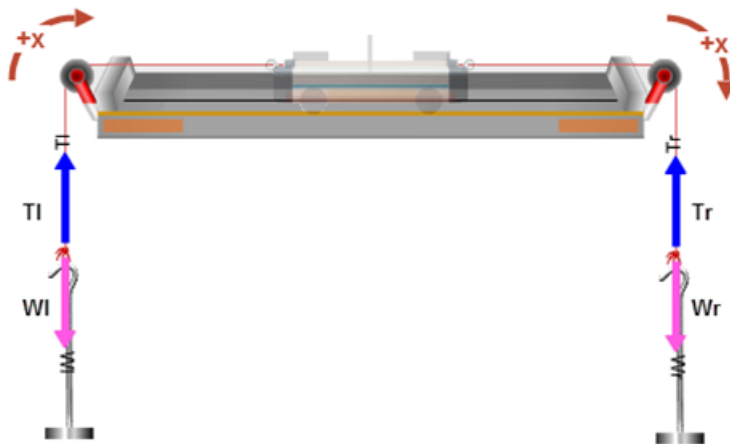

Figure 13: Apparent Weight
- 1 Set up the system shown in Figure 13.